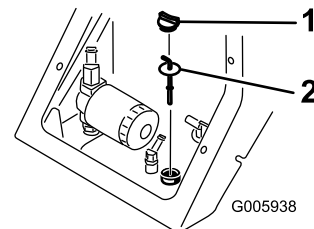

Figure 39
4. Clean the area around the filler neck of the hydraulic tank (Figure 39).
5. Remove the filler-neck cap and check the fluid level on the dipstick (Figure 39).